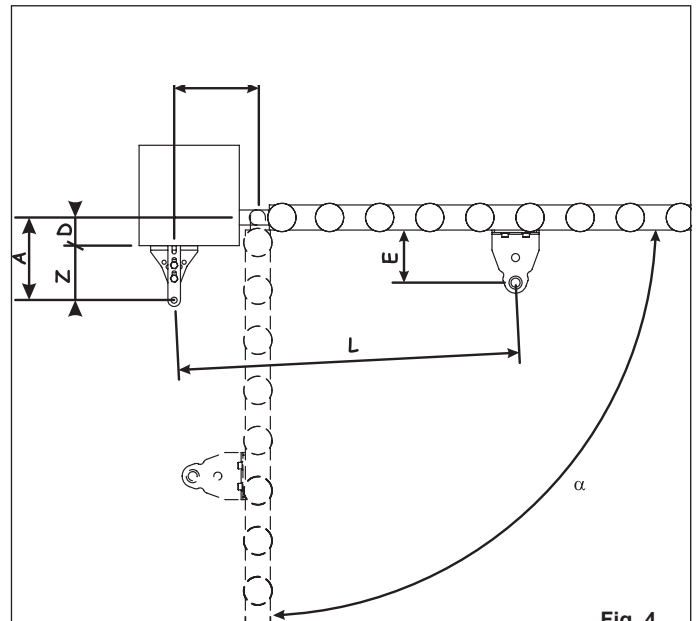
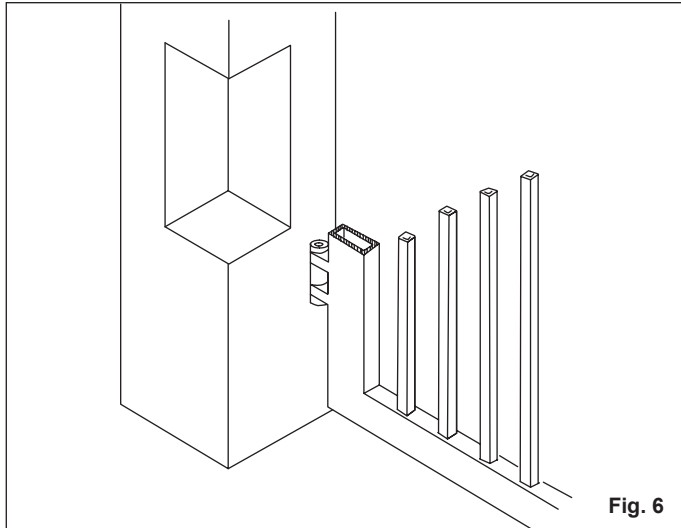

Fig. 4
Fig. 6
Determine the assembly position of the operator, referring to Figure 4 and relative table. It is a good idea at this stage to choose whether or not you want to use the built in mechanical positive stops; eliminating the mechanical stops increases the working stroke of the operator and values **A** and **B** must be changed.
If the size of the pillar or the position of the hinge does not permit the proper installation of the operator, a niche will have to be made in the pillar (as indicated in Figure 6) in order not to change value **A** (Figure 4). The size of the niche must be such as to permit an easy installation of the operator, not limiting its rotation and allowing activation of the manual release device.
*If, during the test, the operator hits the leaf of the gate, value E may be increased, see Figure 4, up to a maximum of 4½ inches, using appropriate spacers placed between the front bracket and the leaf of the gate.*